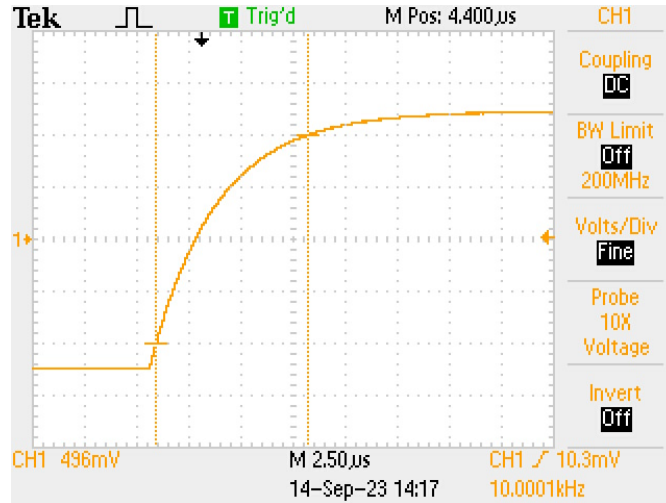

Figure 2.4: Rise Time Measurement
- (g) Adjust the Time/Div to take the rise time measurement with the cursors. Place the cursors at the 10% and 90% crossings (2Div from the top and bottom). Refer to Figure 2.4 *Rise Time Measurement*.